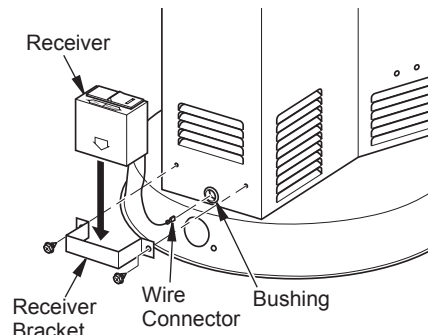

Figure 6 - Installing Remote Receiver
3. Insert wire connector and wire through bushing on the back of heater (see Figure 6).
5. Attach bracket around receiver with screws as shown in Figure 6.